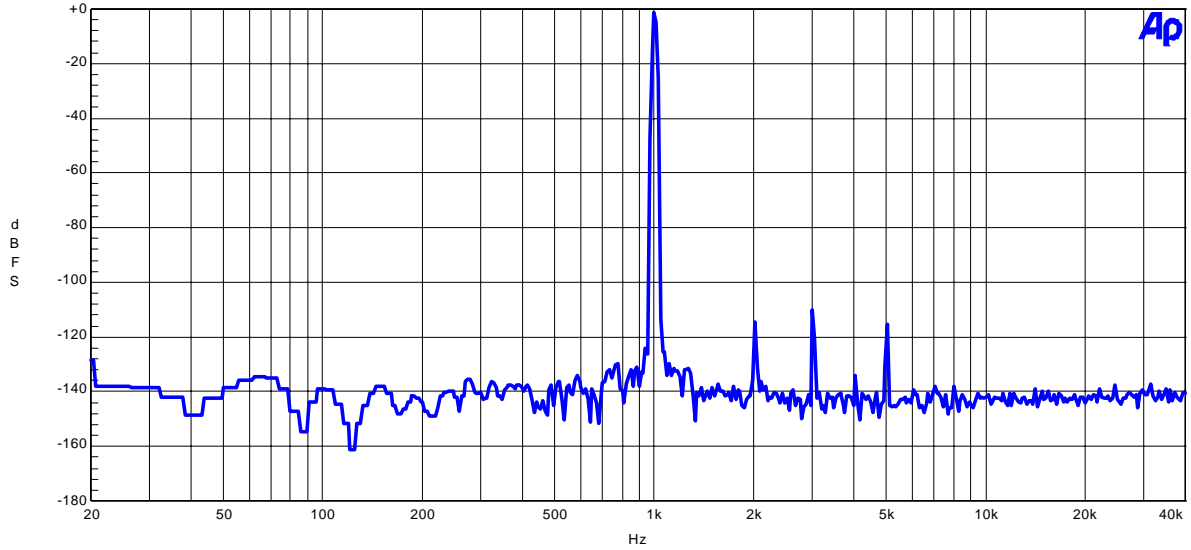

Figure 1-2-1. FFT (1kHz, -1dB input)
- Figure 1-2-1. FFT (1kHz, -1dB input)